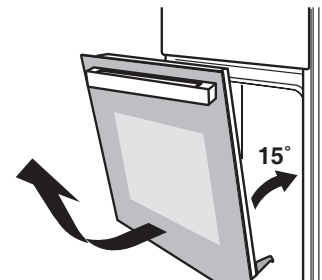

Fig.2
4. Grasp the door on the sides with your hands, lift it slightly upwards and remove it (Fig.2).